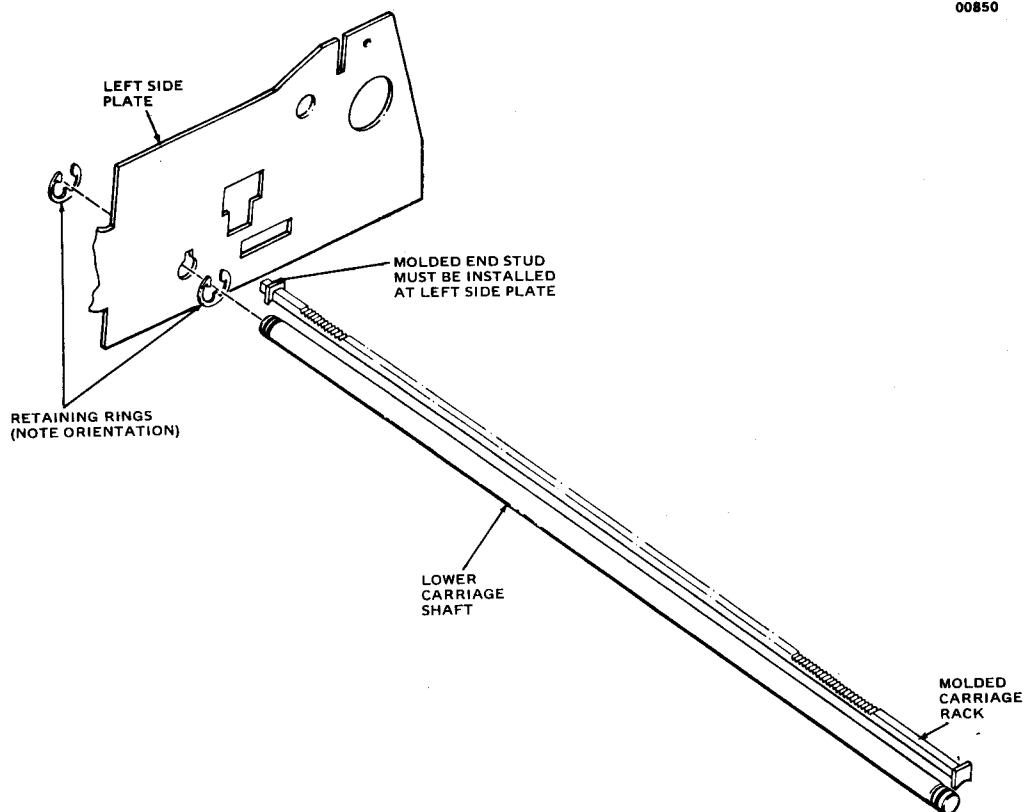

Figure 6-4. CARRIAGE RACK REPLACEMENT
6.5 CARRIAGE RACK, MOLDED (See Figure 6-4)